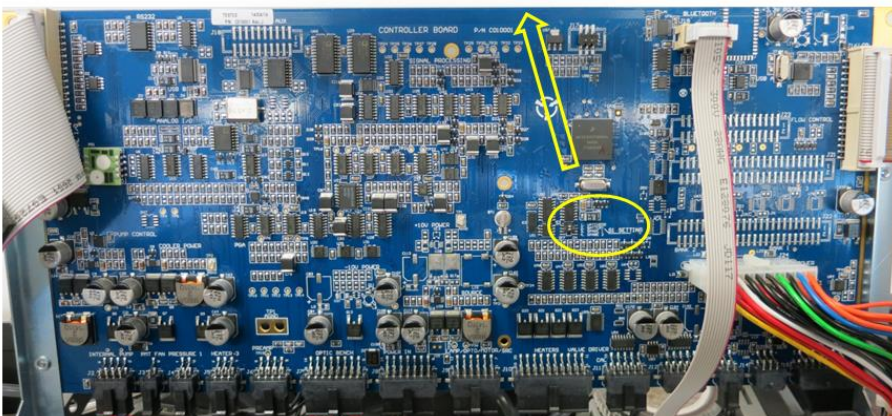

Figure 7 – Switching the Battery On/Off
2. Check that the battery is turned on at the main controller PCA (refer to Figure 7).
8. If storing over a long period (six months) turn the battery off by moving the switch (S1) on the main controller PCA (refer to Figure 7).